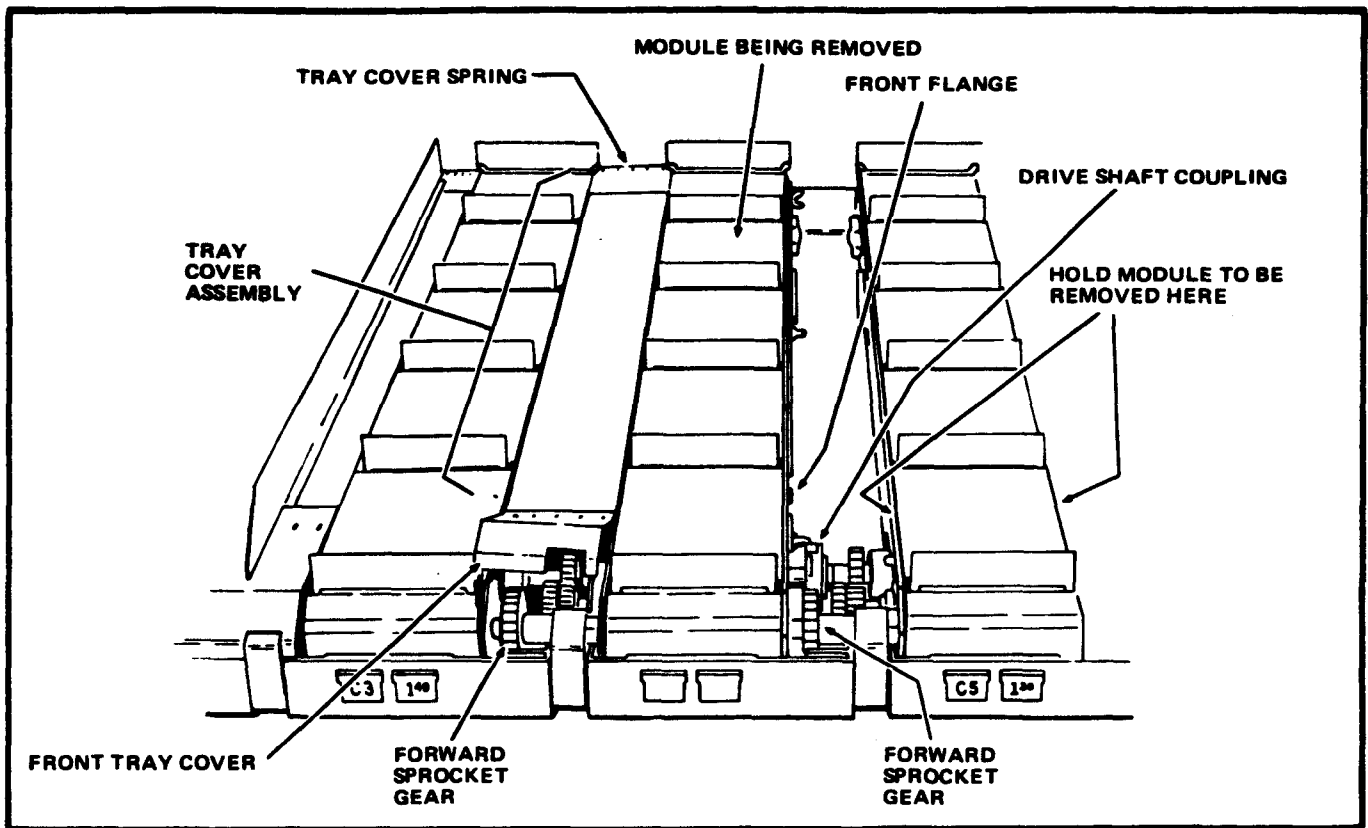

FIGURE 3
- a. Push up and back on the front of the Front Tray Cover. See Figure 3.
- b. Push the Front Tray Cover back, lift up, then pull forward so that the Tray Cover Assembly will slide over the Front Flange on the Module. See Figure 3.
8. If the Module to be removed is linked to either the Module to its left or the Module to its right, slide the Forward Sprocket Gears all the way to the right. See Figure 3.
9. Grasp the Module being removed in the locations shown in Figure 3.